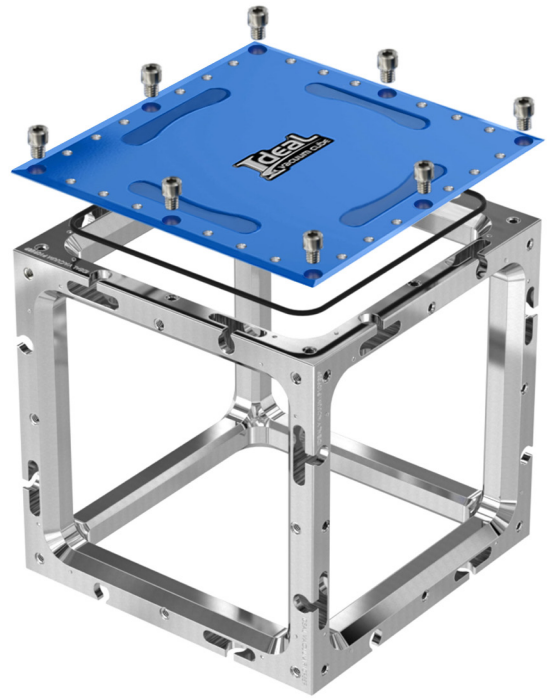

Figure 6 - Fit the plate onto the frame
3. Position and gently place the Cube plate onto the Cube frame (Figure 6).
4. Insert 1/4"-20 x 5/16" long bolts into each of the plate bolt holes (Figure 6).